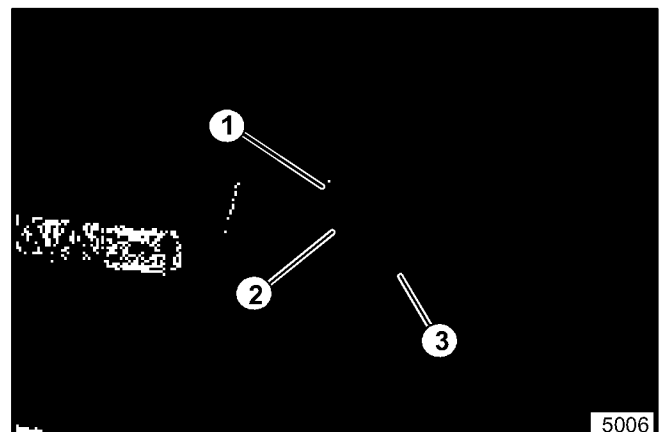

Figure 6. Depth Adjustment Screw Installation
12. Assemble the locking nut handle and depth adjustment screw. Install them into the lift bracket (see figure 6). For final depth adjustment of the reel, refer to the Operation section of this manual.